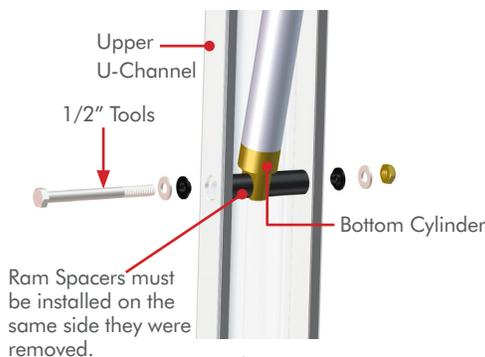

Figure 2
**STEP 2** Remove the Hardware that attaches the **Upper Cylinder Fitting** to the U-Channel using a **1/2" Socket** and wrench **FIG 2**.